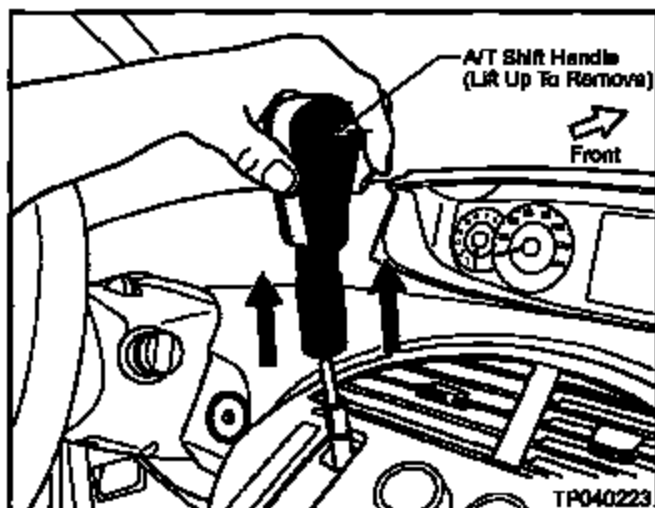

Figure C3
c. Now remove the A/T Shift Handle by lifting it straight UP (see Figure C3).